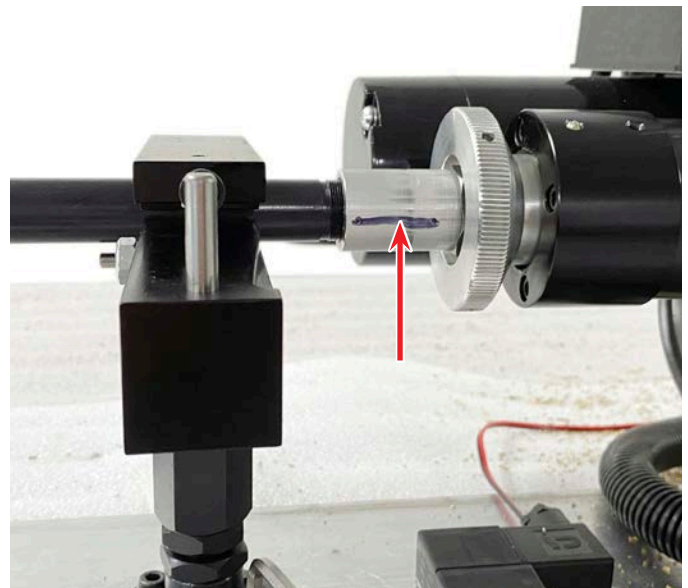

FIGURE 25—The red arrow is pointing to the mark you made previously on the bar feeder alignment tube.)
- F. There will still be some run out at the end of the bar feeder tube. Turn the LCC draw bar knob until the mark that you made previously is aligned so that the bar feeder tube is in the middle of the run out range (see Figure 25).